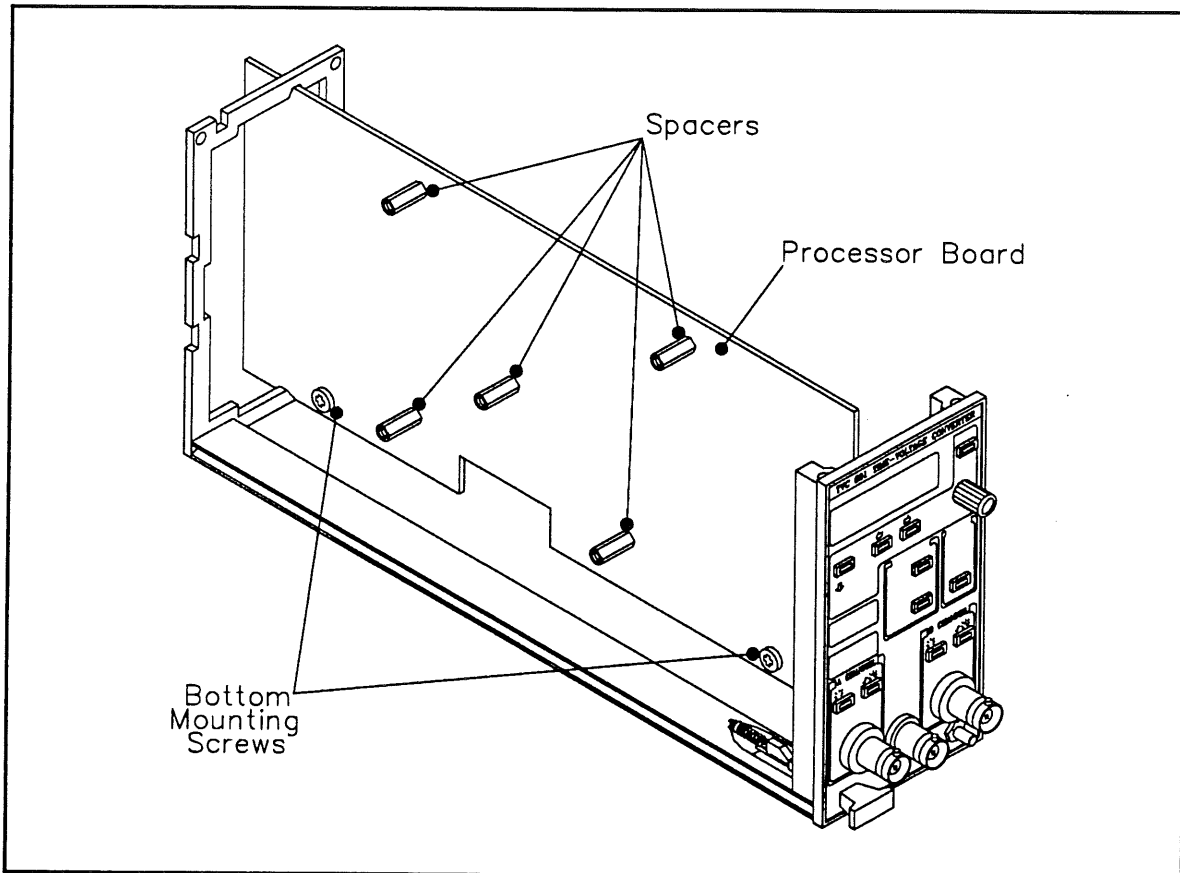

Figure 5-6. Processor Board Screw Locations.
6. Unscrew the two screws at the bottom of the processor board and lift the processor board away from the chassis. Figure 5-6 shows the screw locations.
7. If replacing the processor board, remove the spacers (shown in Figure 5-6) and any attached cables. Mount them onto the replacement board.